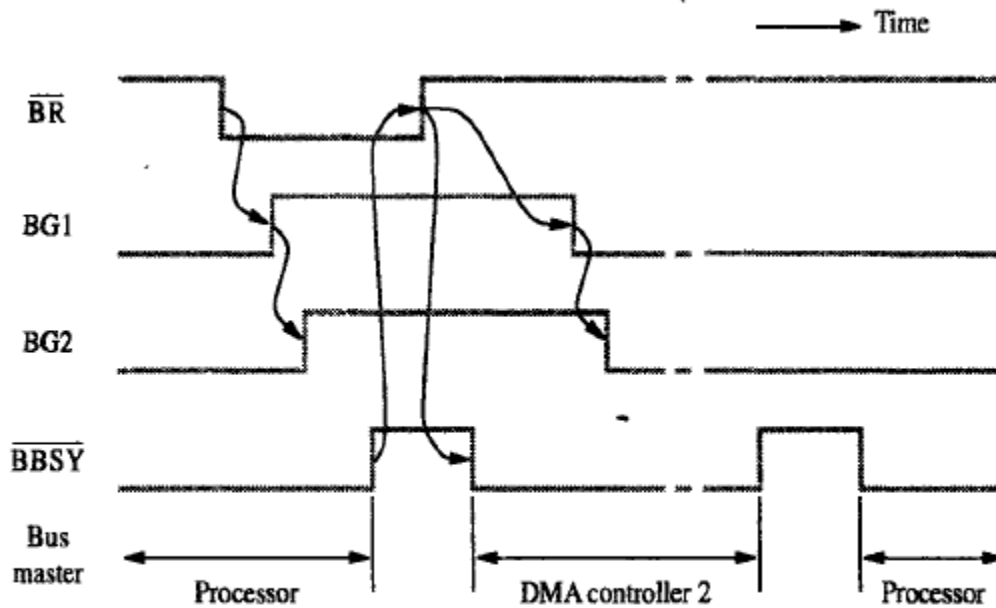

Figure 4.21 Sequence of signals during transfer of bus mastership for the devices in Figure 4.20.
- later releases the bus. (Figure: 4.21).